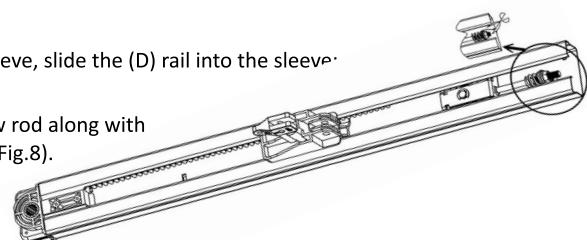

Fig 8
2. Cut the plastic thread; pull the screw rod along with inner chain to the end rail position (Fig.8).